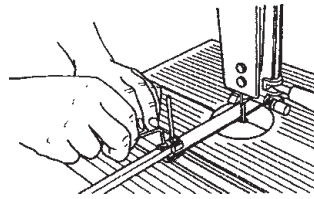

Fig. 23
12. Align the center pin with the tip of the front blade tooth. When aligned, use the 1/8" Allen wrench (included) to tighten the button head screw in the pivot plate. See Fig. 23.